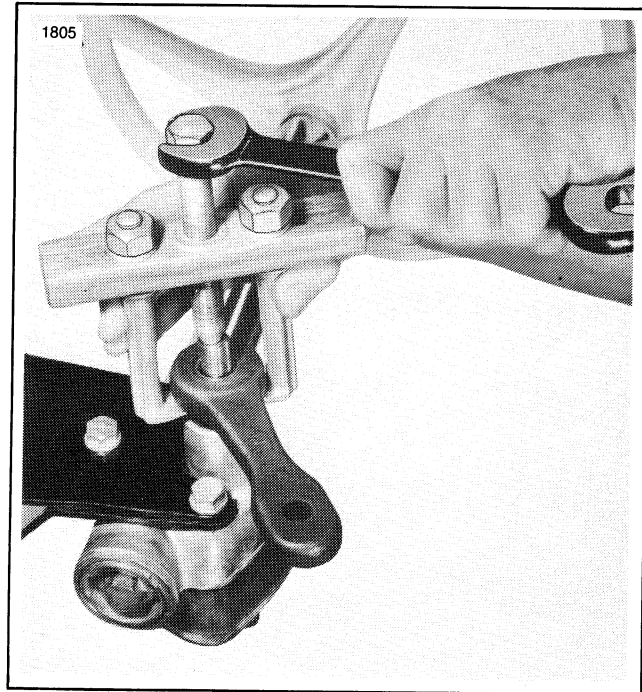

Figure 2-11. Pulling the Steering Arm
2. Remove plug (19) and drain lubricant from housing.
3. Remove nut (17) from steering shaft (18).
4. Use Harley-Davidson's CLAW PULLER, Part No. 97292-61, to pull steering arm from shaft as shown in Figure 2-11.
5. Remove bolts (20), lockwashers (21), left and right brackets (15, 16), cover (22), gasket (23) and steering shaft (18). If seal (24) is damaged and/or leaking, pry it out and replace with a new seal.
6. Pry edge of locking cup (25) from notch in housing and remove the cup.